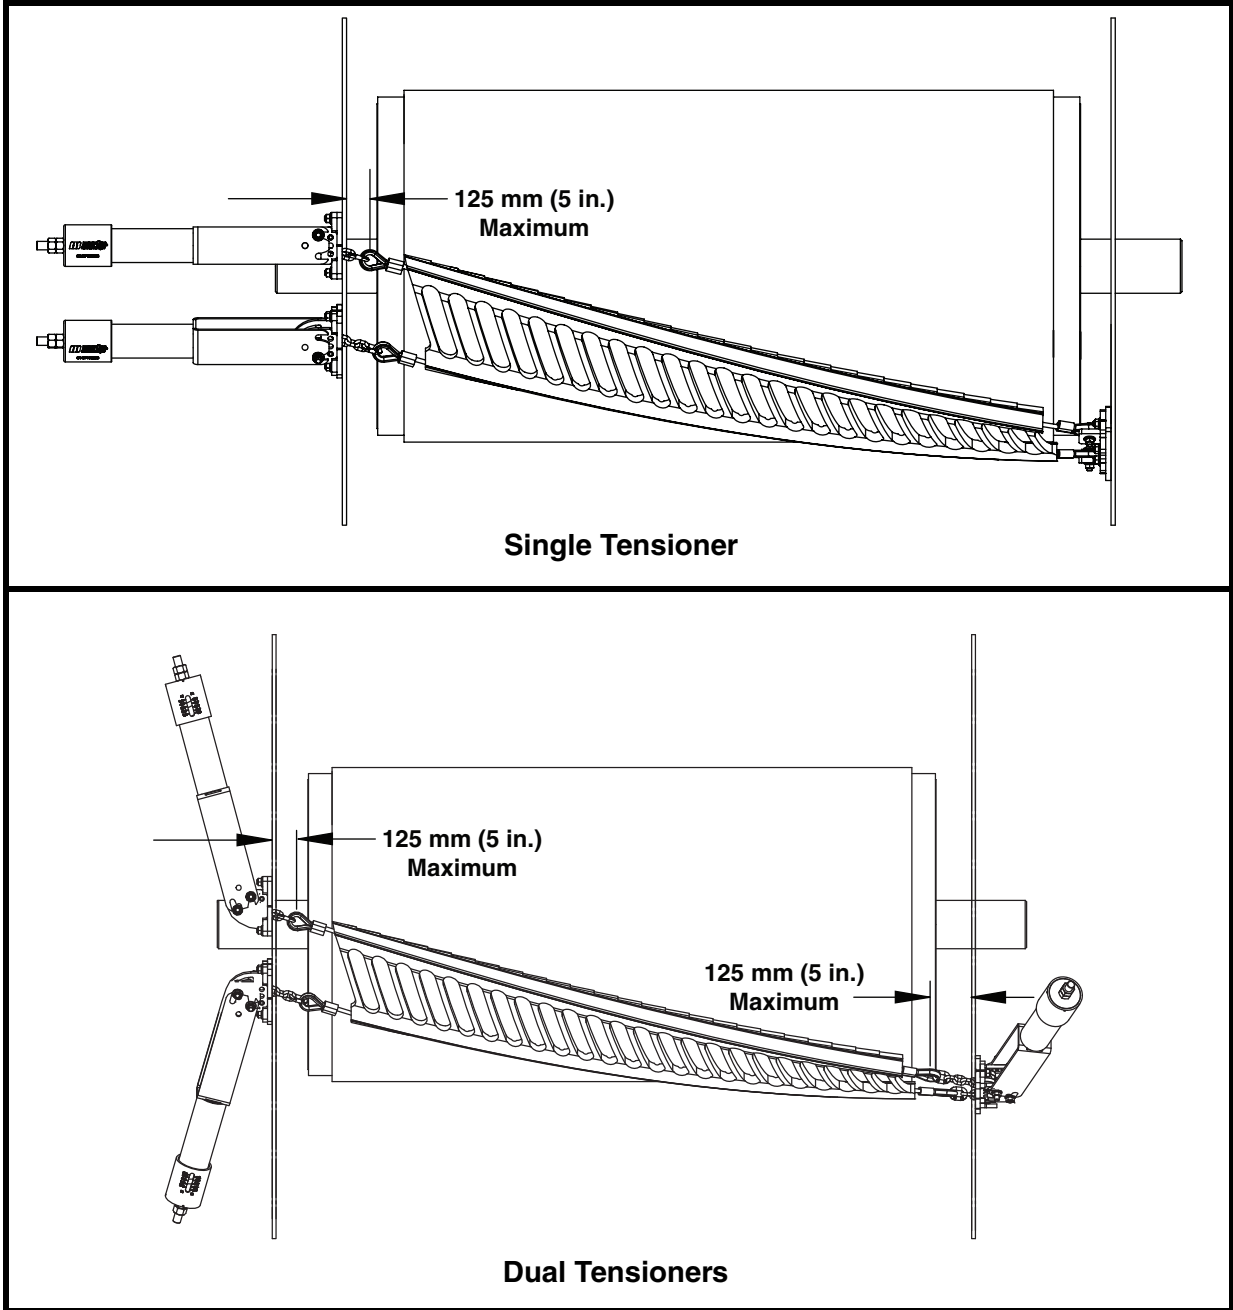

Figure 4. Installations with Wide Chute Walls
- f. The distance between the cleaner and the chute wall should be minimized. Martin Engineering recommends keeping the distance to 125mm (5 in.) maximum per side (see Figure 4). Excess chain or cable could result in vibration that could damage the belt or the cleaner. If necessary, build a sub-wall to support the tensioners in the proper position. Consult Martin Engineering for installation assistance if parameters fall outside of this range.